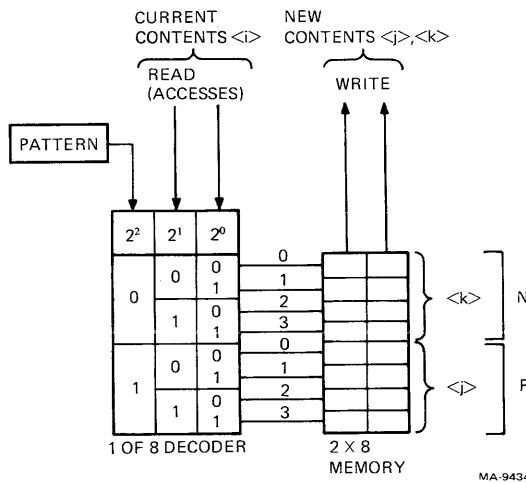

Figure 5-24 Custom Writing Control Command
Figure 5-24 shows that the hardware associated with the W(W) command is a one of eight decoder and an eight-by-two bit memory. The decoder has two inputs. The current pixel in the display bit map supplies the two low bits. The current bit in the pattern memory supplies the high bit. The eight outputs from the decoder select eight possible writing choices for the current pixel.